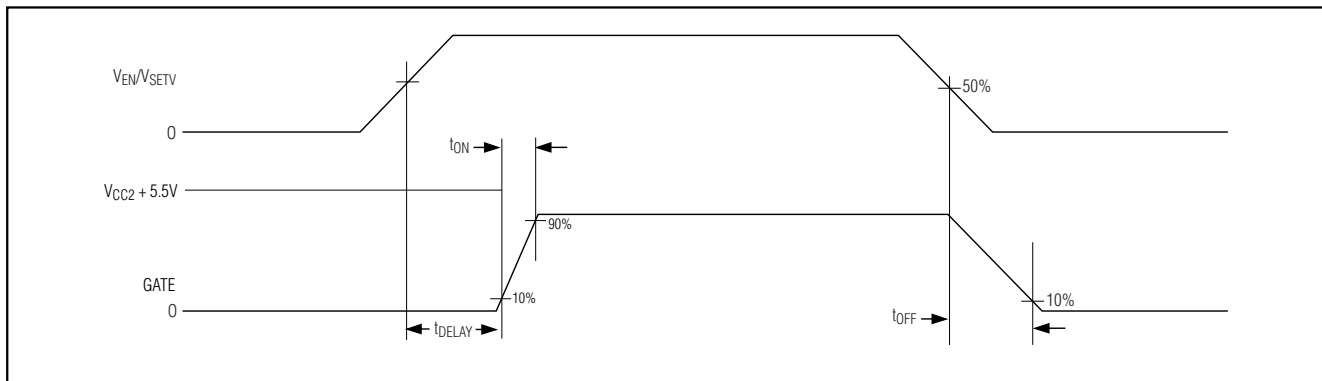

Figure 3. Timing Diagram
The MAX6819 offers a logic-compatible enable input (EN) that allows digital devices to control sequencing. When the TTL/CMOS-compatible EN input is logic low, the GATE output is low. When the EN input is logic high (and SETV is above the monitor threshold), the GATE output is enabled after an internally fixed 200ms delay. For a logic controlled sequencer when voltage monitoring is not desired, connect SETV to V_{CC1} or $V_{CC2} > 0.62V$ (Figure 3).